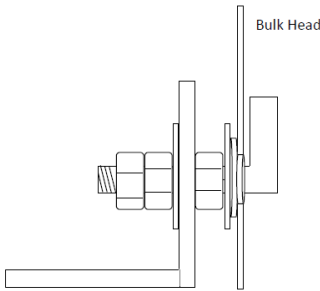

Figure 1
Step 1: Unwrap your new *CargoEase* truck slide and check to ensure that all parts are included. See diagram Fig 1